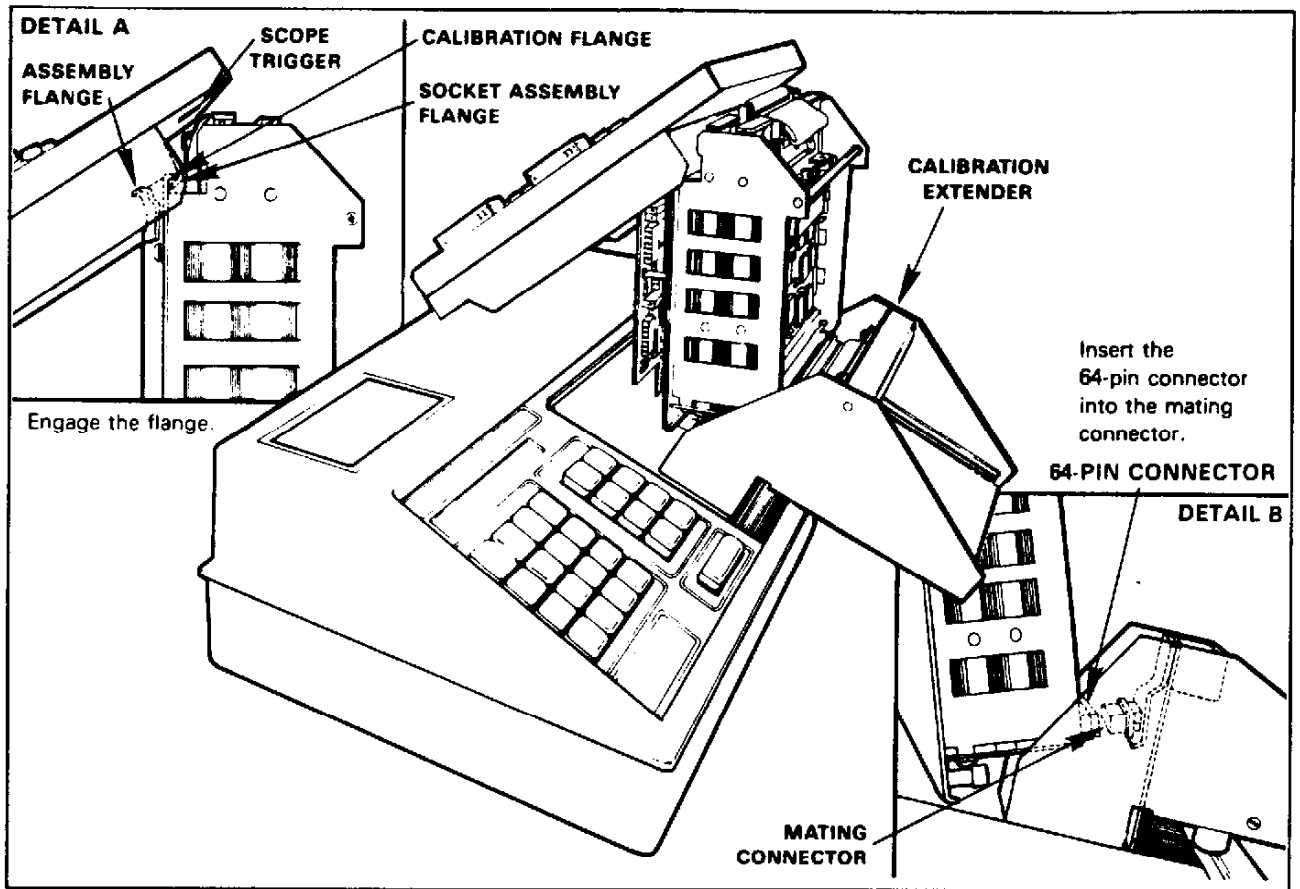

Figure 5-1. Calibration Setup
6. Lean the top portion of the UniPak 2B against its bottom portion at a 45-degree angle (see figure 5-1).